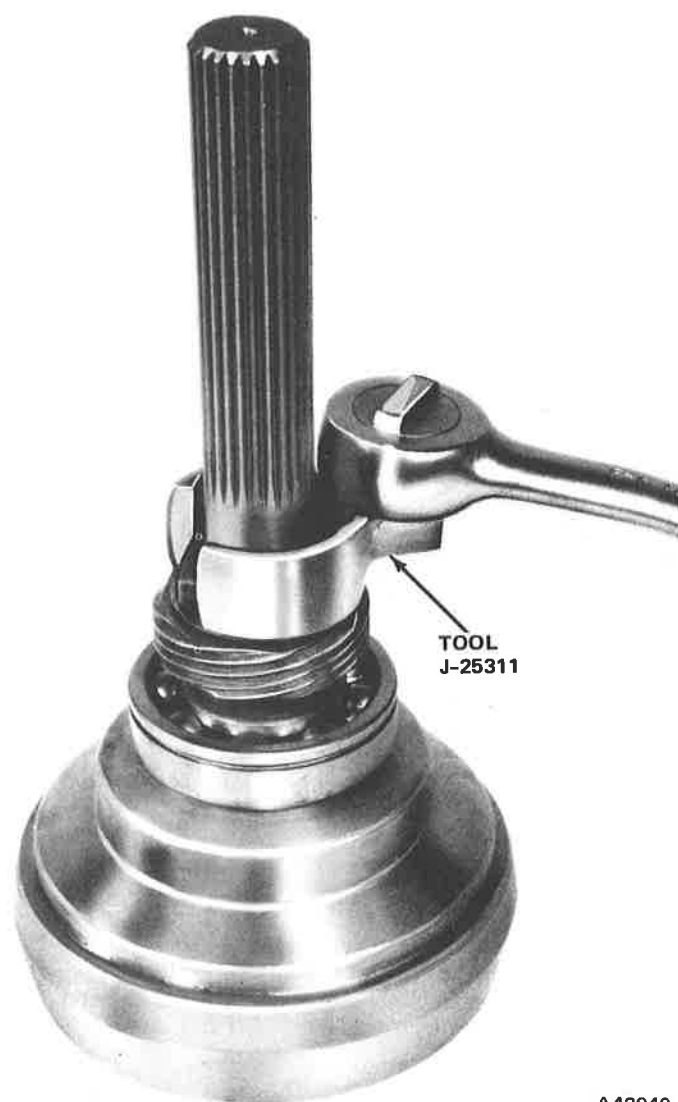

Fig. 6-49 Speedometer Gear Locknut Removal and Installation
(21) Place Torque Adapter Tool J-25312 onto spline end of main shaft to hold main shaft and remove speedometer drive gear locknut with Remover-Installer Tool J-25311 (fig. 6-49). Remove speedometer drive gear tab washer and speedometer drive gear. Re-